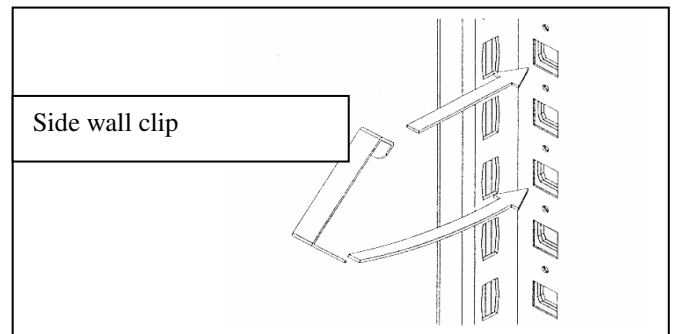

fig. 1
3. Place the lowest side wall section (h = 1994 mm) between the frame support profiles. Secure on both sides approx. 140 mm under the bottom edge of the side wall with locking pins (the round holes must be congruent with each other!). For a shelving unit height 2000 mm, fix the side wall with five clips on each side, starting from the top, at intervals of approx. 450 - 500 mm (see Fig. 1) and bend up the lugs. For shelving unit heights of 2500 mm and 3000 mm, secure the side wall with four clips on each side, starting approx. 500 mm under the side wall top edge, at intervals of approx. 450 - 500 mm (see Fig. 1) and bend up lugs.
4. Position the upper side wall section (h = 544 mm for shelving unit height H = 2500 mm) between the support profiles of the frame, flush with the top edge of the unit. Secure on both sides approx. 140 mm under the bottom edge of the side wall with locking pins. Fix the side wall in the topmost possible position with a side wall clip on each side. Fix the overlap (ca. 45 mm) of the upper and lower side wall with a side wall clip on each side (see Fig.1), and bend up lug.